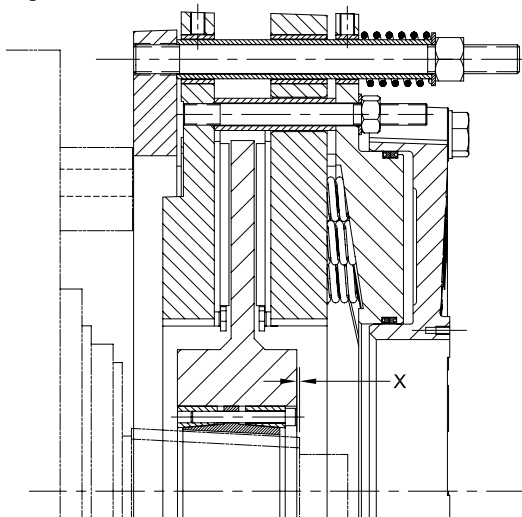

Figure 5
2.2.13.2 Using a brass bar or other soft metal bar use a hammer to tap the TSL (8) onto the motor shaft as far in as possible until the internal taper of the TSL bottoms out on the external taper of the motor shaft. This will be detected by the feel of the hammer on the soft metal bar. The hub of the disc (4) should be in-line with the taper end of the motor shaft. See Figure 5.